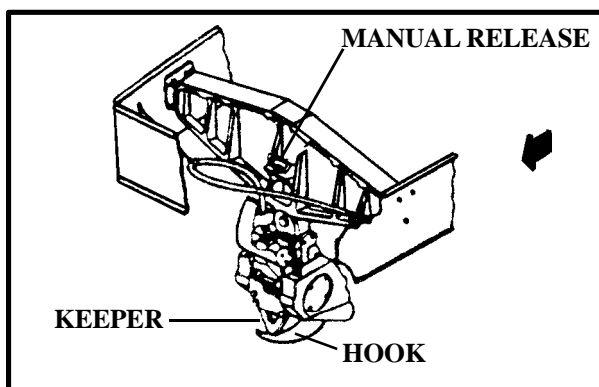

Figure 2-14. H-47 Center Cargo Hook
(2) The center cargo hook maximum capacity is 26,000 pounds and is attached to an I-beam mounted in an opening in the floor (Figure 2-14). The aircrew can open the cargo hook electrically or manually. The manual release is not accessible to the ground crew; therefore, the ground crew must manually depress the spring-loaded keeper and remove the apex fitting from the cargo hook.